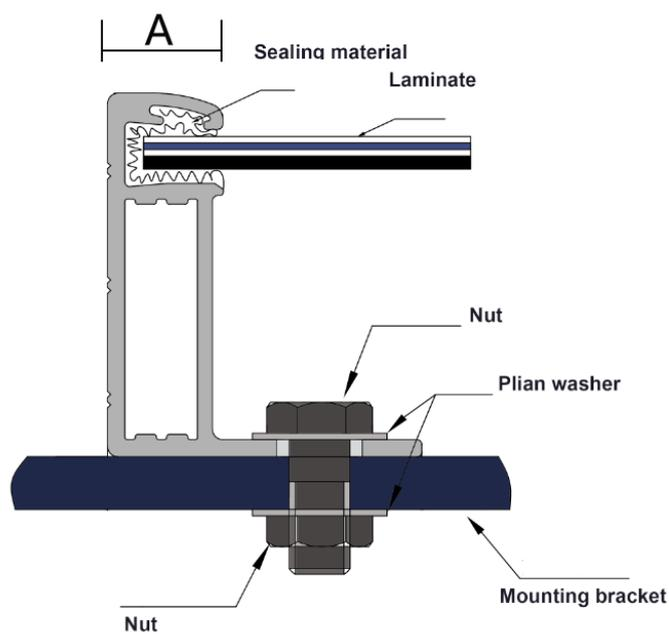

Fig. 8-1 Drawing of installation dimension
- **Use anti-corrosion M8 stainless steel bolts to fix the solar photovoltaic module through the mounting hole on the frame of the solar photovoltaic module (as shown in Figure 8-1).Risen recommends that you erect solar photovoltaic modules when fixing bolts, so that the modules will not slide easily and it will be safer to use.**